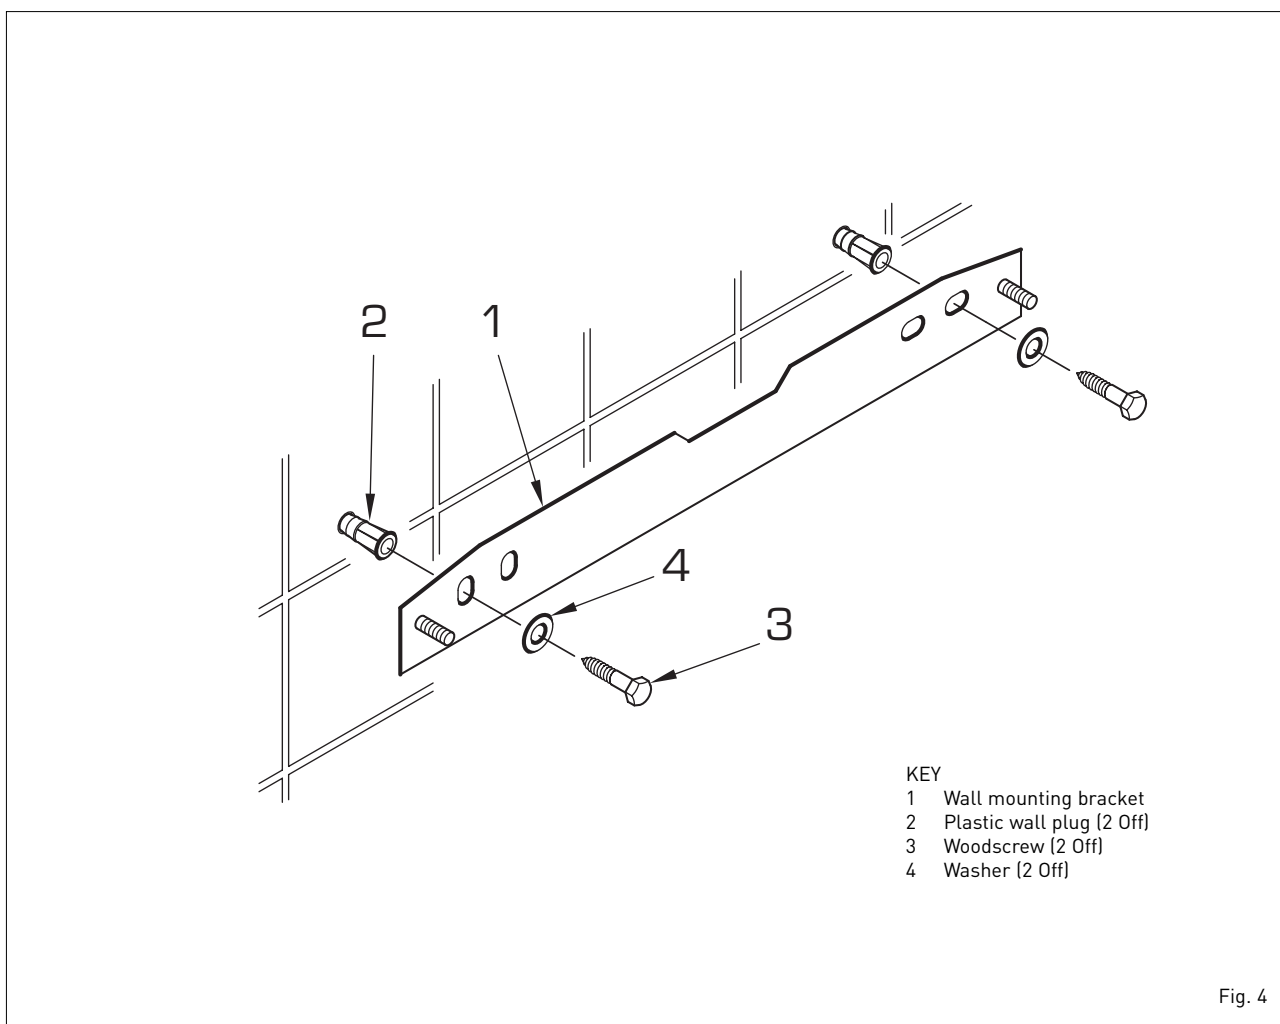

Fig. 4
### 2.3 FIXING THE WALL MOUNTING BRACKET (fig. 4)
- Secure the wall mounting bracket in position using the screws provided. Ensure that it is the correct way up, as indicated in fig. 4.